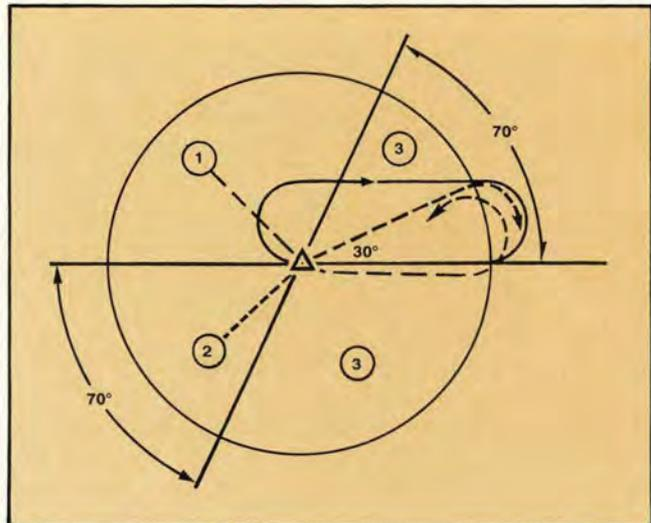

Figure 2
**Holding** (figure 2) International holding airspeeds have been added to FLIP General Planning, Chapter 6. Ensure you are familiar with them. The ICAO holding rules state timing is based on the outbound leg for ICAO procedures. All turns in holding are made at 25° of bank or 3° per second, whichever is less. Twenty-five degrees is used since it is the worldwide standard for flight directors.